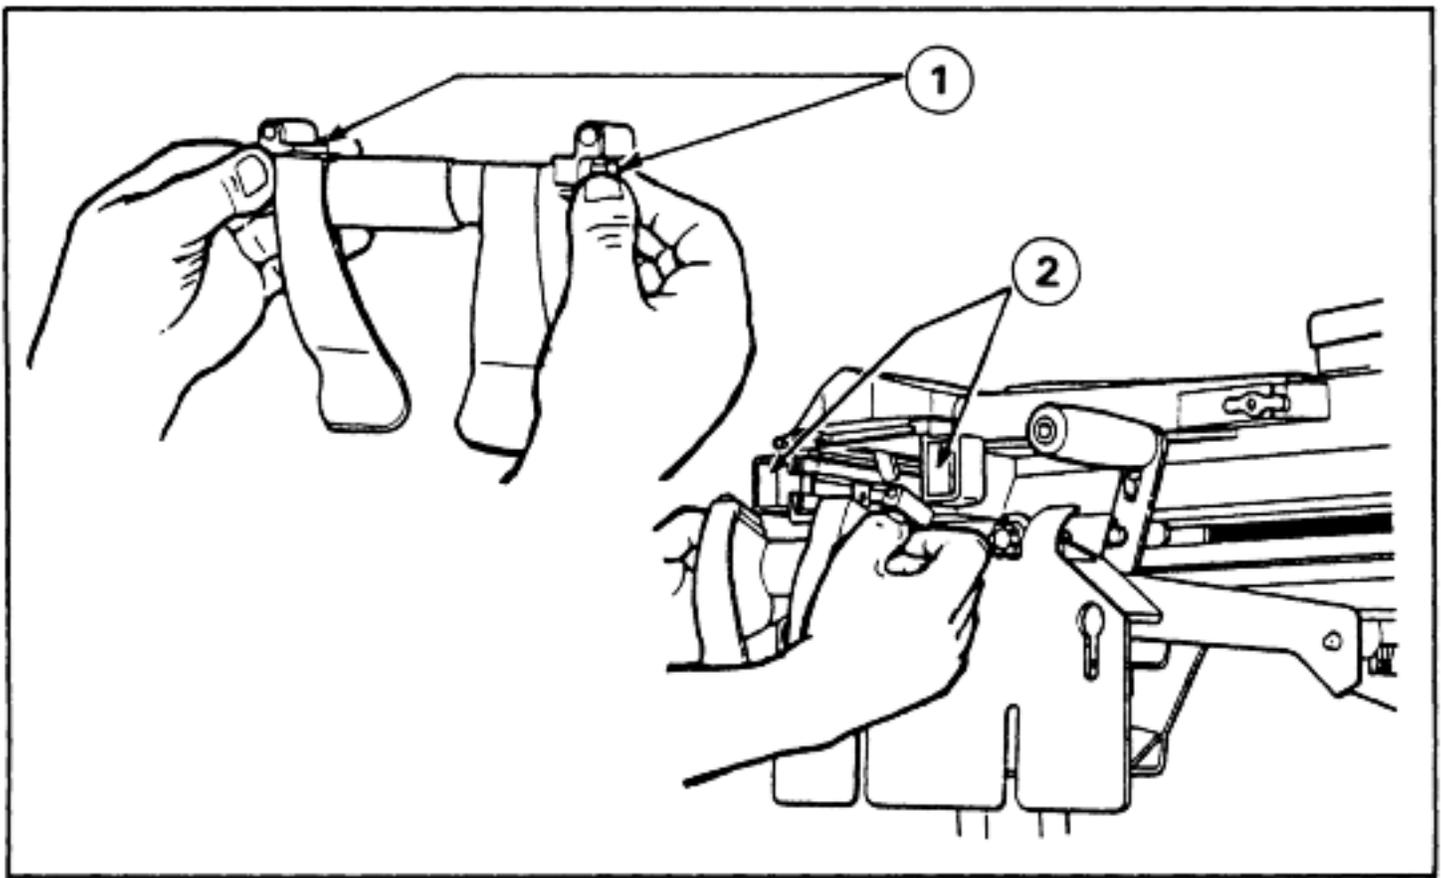

Figure 2-21. Attachment of feed throat.
- a. Before loading, attach the feed throat (Figure 2-21) by squeezing the spring-loaded pins on the feed throat (1); insert the feed throat on both sides of the feeder (2). Make sure that the feed throat points down.